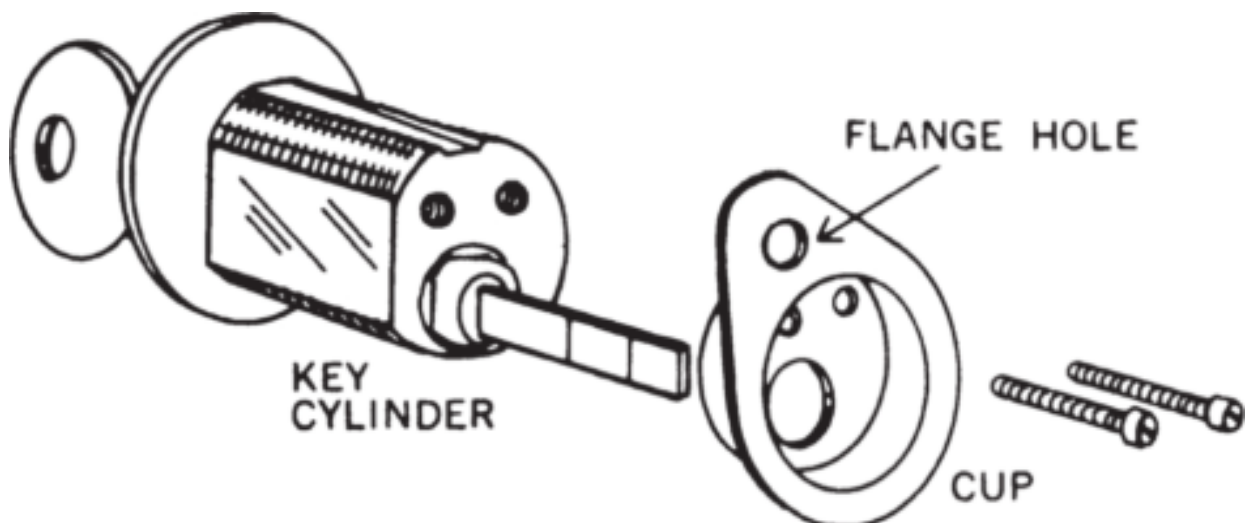

**Figure 18.21** Bypass lock assembly procedure. (*Simplex Access Controls Corp .*)
- Assemble the key lock cylinder in the  $\frac{7}{8}$ -inch-diameter hole. *Note:* The hole in the flange of the cup must be positioned over the  $\frac{1}{8}$ -inch-diameter mounting screw hole used to secure the lock housing to the door (Fig. 18.21).